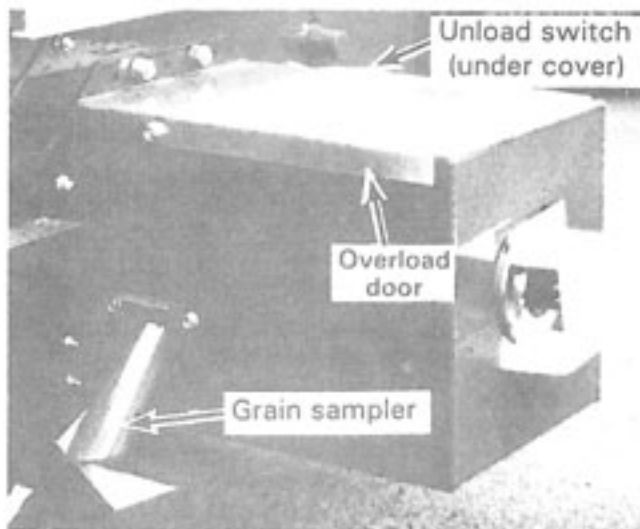

Figure 25
1. If the customer supplied grain take away system fails, the dryer will continue to discharge grain until the rear discharge overload door, Figure 25, is raised by the grain.